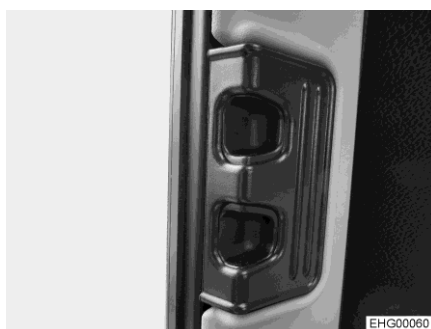

Fig. 68 Locking handle (front passenger's window)
- Press locking handle (Fig. 68) together and keep it pressed.